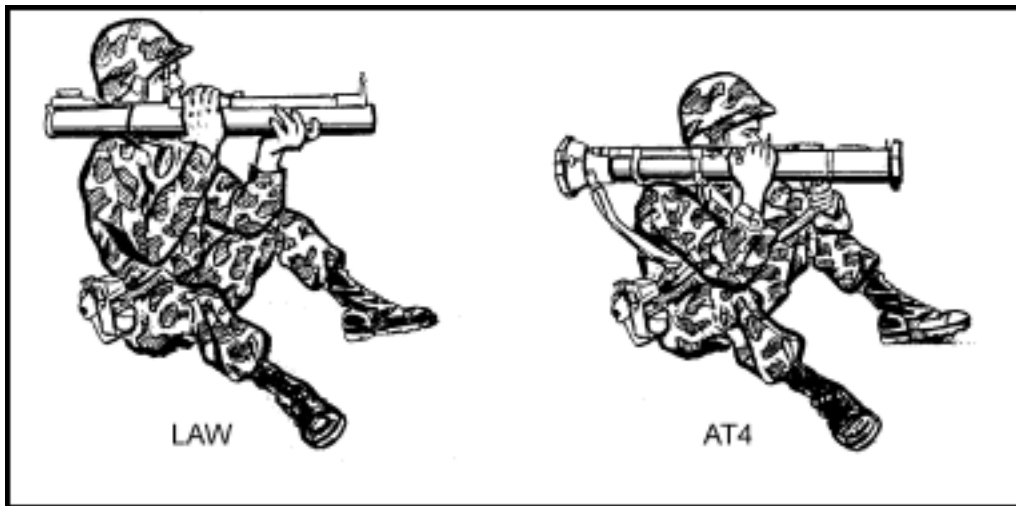

Figure 5-6. Basic sitting positions.
a. **Basic Sitting Position.** Sit on your buttocks while facing the target, and spread your feet a comfortable distance apart. Lean forward and place the backs of your upper arms on your knees, avoiding bone-to-bone contact. Figure 5-6 shows the basic sitting positions for the LAW and AT4.